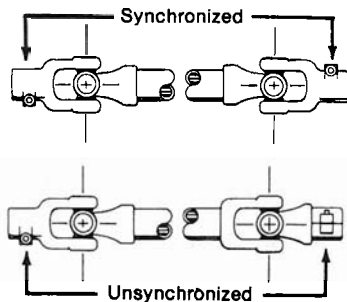

Figure 5
3. Make sure tumbling bar (coupling shaft) is assembled with its universal joint knuckles "synchronized," as illustrated in Figure 5. If knuckles are not synchronized, the bar will chatter when rotating, which will cause the generator output voltage to fluctuate and can also cause tumbling bar failure or shortened generator life.
Check the generator gear case oil level before each use of the generator. Maintain the oil level at oil level plug height. Figure 5 illustrates oil level plug location. The generator is shipped with lubricant in the gear case. Specifications for gear case lubricant are:
Use the following procedure to change generator gear case oil. (See Figure 5).